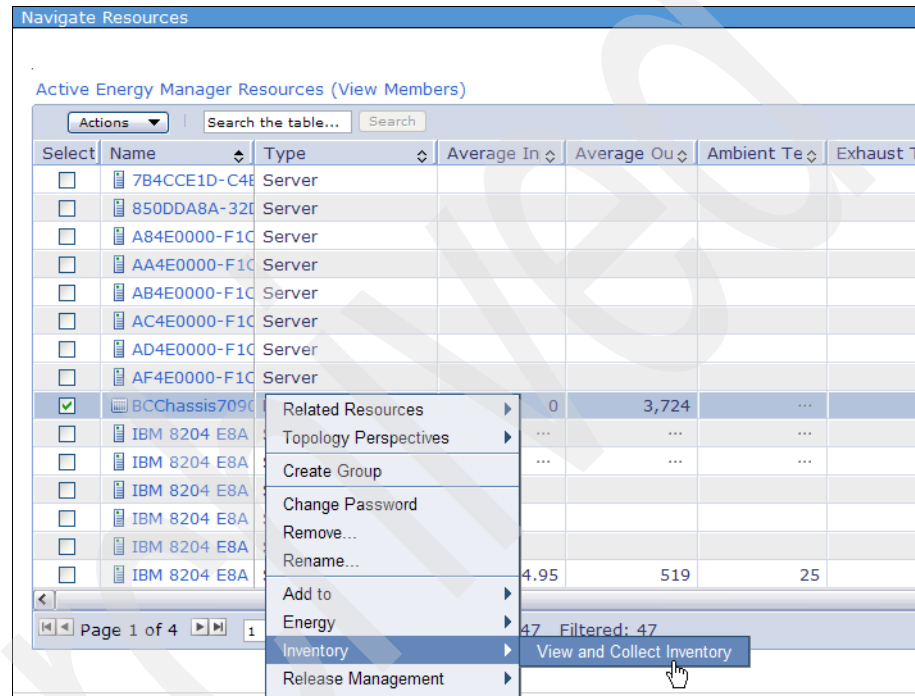

Figure 6-31 Viewing collected inventory for an Active Energy Manager resource - 1
2. Right-click a resource and select **Inventory** → **View and Collect Inventory** as shown in Figure 6-31. In this example, we selected a BladeCenter chassis.